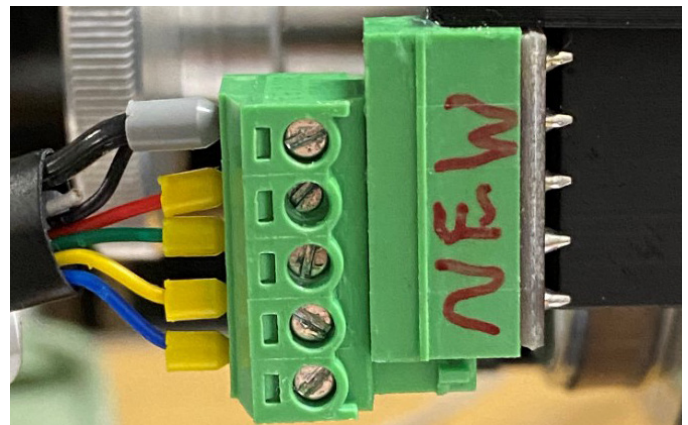

FIGURE 8—The male connector is NOT aligned with the female connection.
If the male connector is inserted with less that (5) legs as shown in Figure 8, you will damage the encoder when you turn on the power.